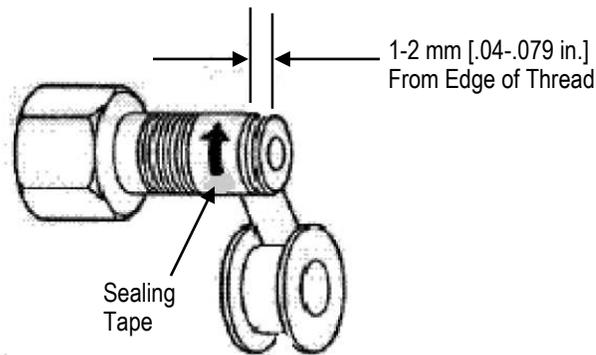

Figure 7
4. Begin wrapping the sealing tape 1 to 2 mm [.04 to .079 in.] from the edge of the thread (see Figure 7).